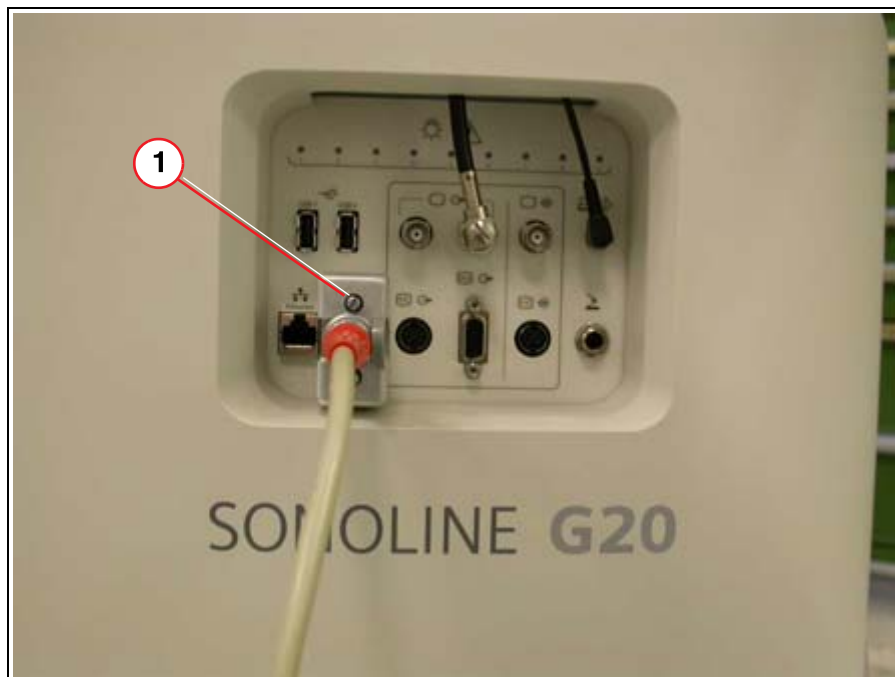

Fig. 39: SONOLINE G20
- Secure the connector adapter (1/Fig. 39 / p. 37) to the serial interface.